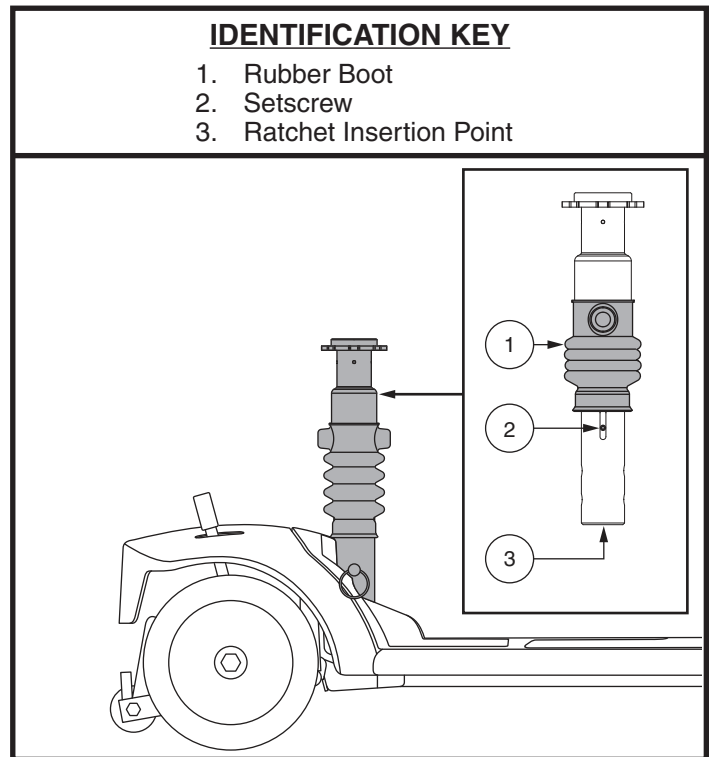

Figure 25. Seat Suspension Adjustment
The seat post acts as a shock absorber and can be adjusted for different degrees of ride comfort. Use the setscrews that are visible through the adjustment window on the side of the post as a guide when making adjustments. Slide the rubber boot towards the top of the post to expose the setscrews. **See figure 25.**
3. Insert a 13 mm socket with an extension into the bottom of the post. **See figure 25.**